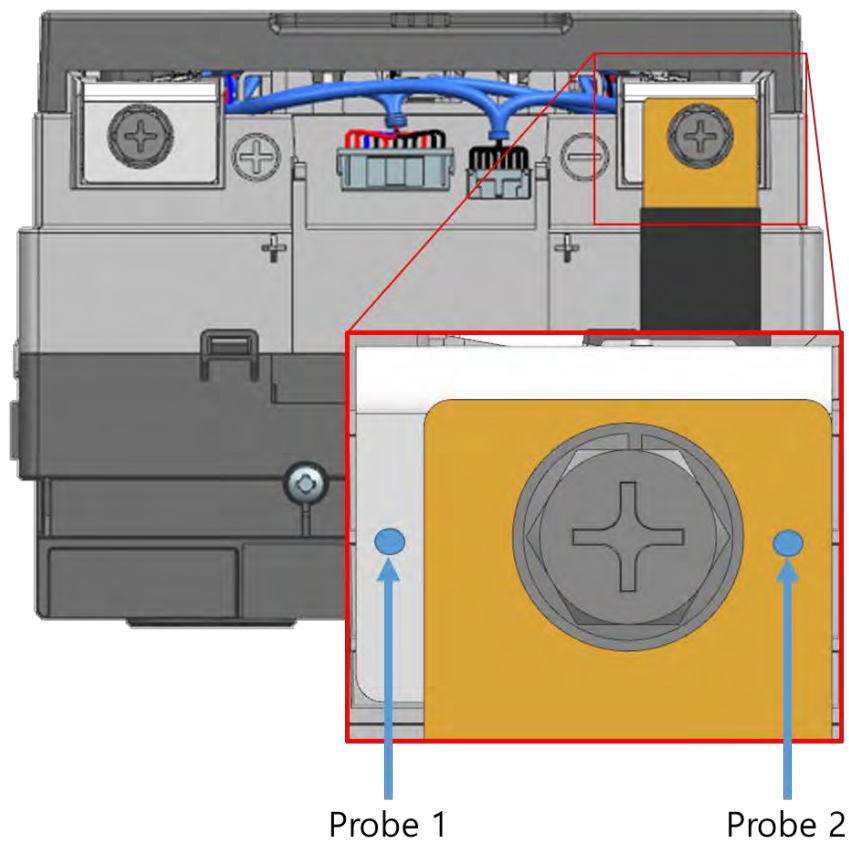

Figure 3-38: Contact Resistance Probe Points (Battery Module Terminal to Busbar)
- After connecting the busbar to the terminals (battery module, SMU, fuse), measure the contact resistance between the terminals and the busbars using a low resistance meter. Refer to Figure 3-38: Contact Resistance Probe Points (Battery Module Terminal to Busbar) for location of the measurement. Use similar probe locations for SMU terminal to busbar contact resistance, and fuse to busbar contact resistance. Make sure each probe is in contact with only the intended location.